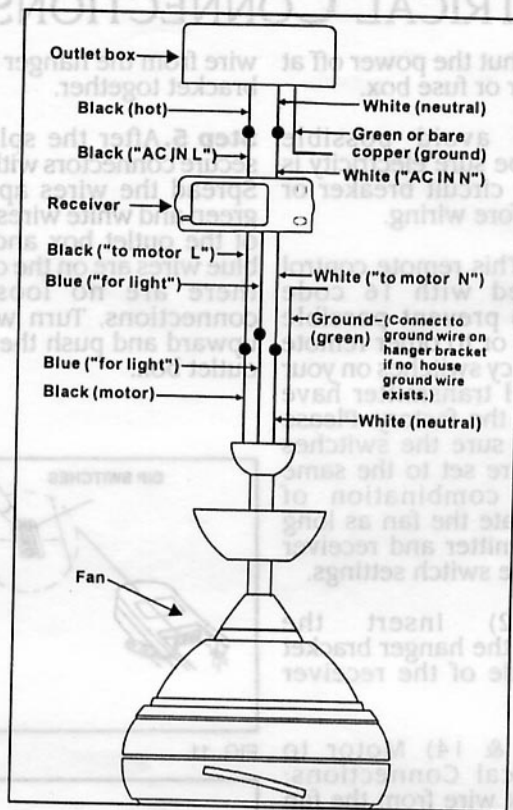

Fig 13
**Step 2.** (Fig. 13 & 14) Motor to receiver Electrical Connections; Connect the Black wire from the fan to the Black wire marked "To Motor L" from the receiver. Connect the White wire from the fan to the White wire marked "To Motor N" from the receiver. Connect the Blue wire from the fan to the Blue wire marked "For Light" from the receiver.
**Step 3.** (Fig. 13 & 14) Receiver to house supply wires Electrical Connections; Connect the Black (Hot) wire from the outlet box to the Black wire marked "AC in L" from the receiver. Connect the White (neutral) wire from the outlet box to the white wire marked "AC in N" from the receiver. Secure all wire connections with the plastic wire nuts provided.
**Step 4.** (Fig. 13 & 14) If your outlet box has a ground wire (green or bare copper) connect the fan ground wire from hanger ball and hanger bracket to it; otherwise connect the fan ground